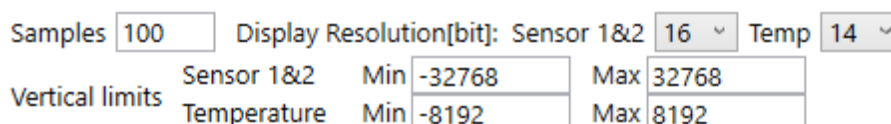

Figure 163. Selected Display Resolution
**Note:** when “As Visualized” is active, the data saved on file are stored in decimal format taking in account the display resolution selected, see Figure 163.